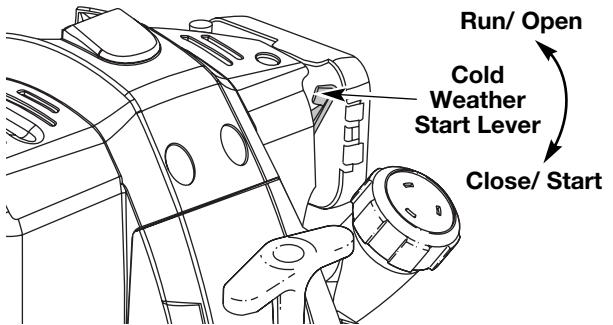

Fig. 7
**IF COLD...** For cold weather conditions (below 40°F), flip the Cold Weather Start Lever (Fig. 7) down to the start/closed position and continue to step 4. DO NOT flip this lever down if the temperature is above 40°F.